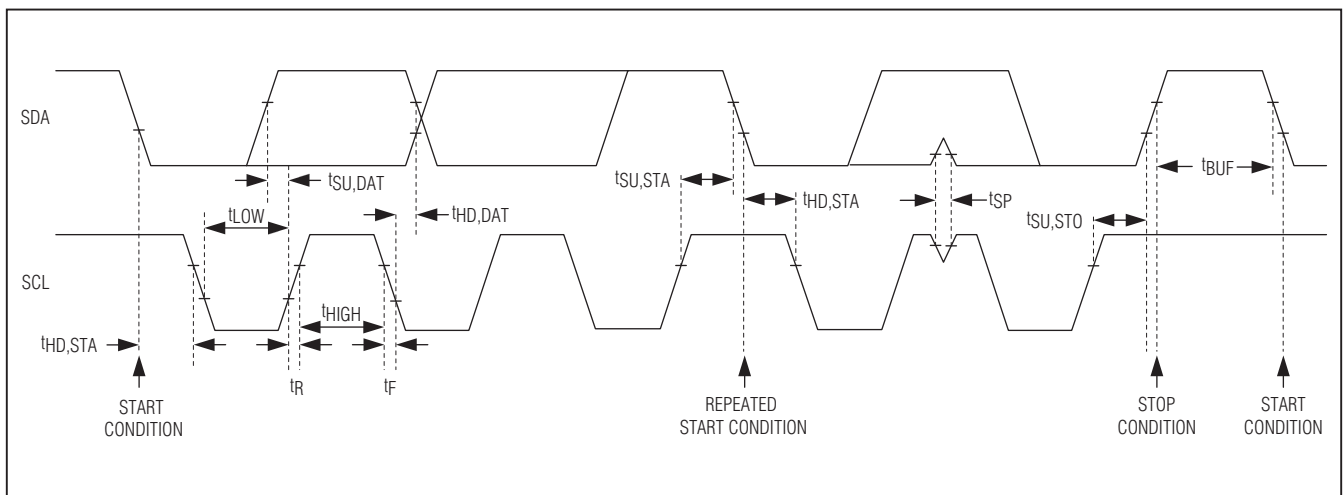

Figure 3. 2-Wire Interface Timing Diagram
The IC features an I2C/SMBus™-compatible, 2-wire serial interface consisting of a serial-data line (SDA) and a serial-clock line (SCL). SDA and SCL facilitate communication between the IC and the master at clock rates up to 400kHz. Figure 3 shows the 2-wire interface timing diagram. The master generates SCL and initiates data transfer on the bus. A master device writes data to the IC by transmitting the proper slave address followed by the register address and then the data word. Each transmit sequence is framed by a START (S) or REPEATED START (Sr) condition and a STOP (P) condition. Each word transmitted to the IC is 8 bits long and is followed by an acknowledge clock pulse. A master reading data from the IC transmits the proper slave address followed by a series of nine SCL pulses. The IC transmits data on SDA in sync with the master-generated SCL pulses. The master acknowledges receipt of each byte of data. Each read sequence is framed by a START or REPEATED START condition, a not acknowledge, and a STOP condition. SDA operates as both an input and an open-drain output. A pullup resistor, typically greater than 500Ω, is required on the SDA bus. SCL operates as only an input. A pullup resistor, typically greater than 500Ω, is required on SCL if there are multiple masters on the bus, or if the master in a single-master system has an open-drain SCL output. Series resistors in line with SDA and SCL are optional. Series resistors protect the digital inputs of the